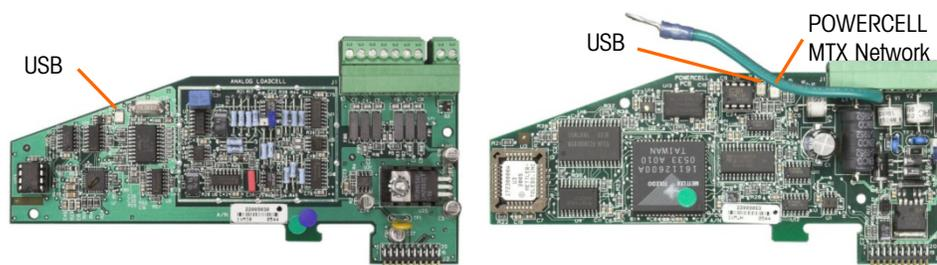

Figure 4-5: Analog Load Cell (left) and POWERCELL MTX (right) LEDs
5. With focus on the Install from box, press ENTER, and use the DOWN arrow key to highlight USB Memory, as shown in Figure 4-5, then press ENTER to make the selection.